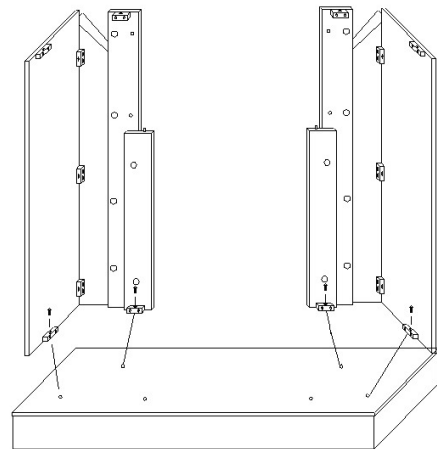

Fig. 5
Step 5: Attach Panels H, G, E and D to Base [B] with 2 KD screws. Attach Panels J, G, F and D to Base [B] with 2 KD screws. See Fig. 5